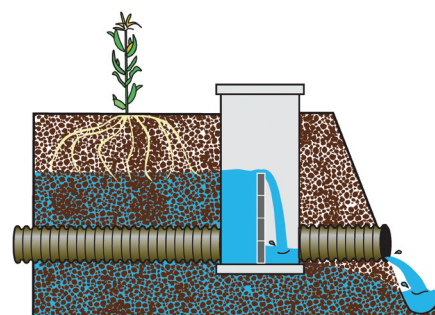

Figure 3. The outlet is raised after planting to potentially store water for crops.
- Raised again after planting and spring field operations to create a potential to store water for the crop to use in midsummer. (Figure 3)